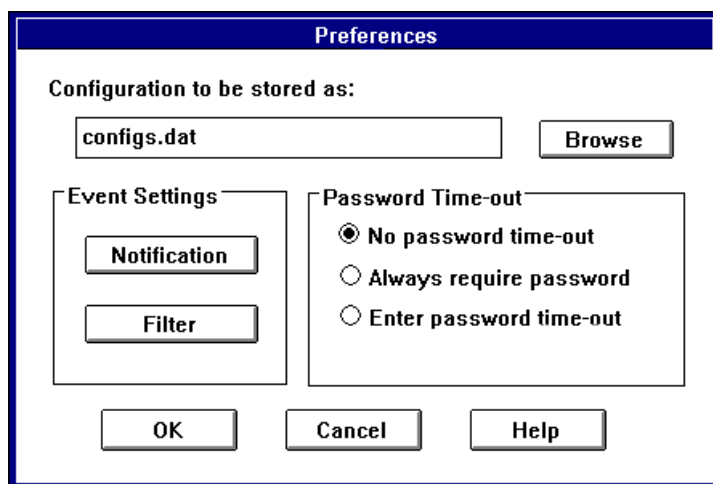

Figure 2-8. Preferences Dialog Box
- 1 Click the  button. The Preferences dialog box appears, as shown in Figure 2-8.